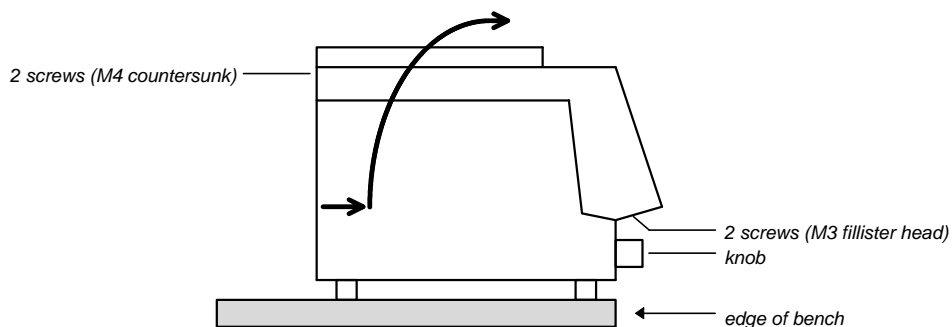

Fig. 7
- Place instrument over edge of bench to allow the M3 screws to be removed (Fig. 7).